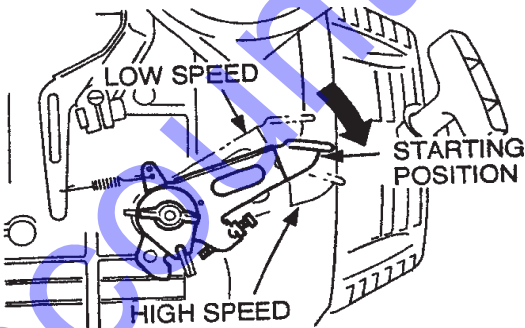

Figure 7. Throttle Lever (1/3 Start Position)
2. Move the *throttle lever* (Figure 7) away from the slow position, about 1/3 of the way toward the fast position.